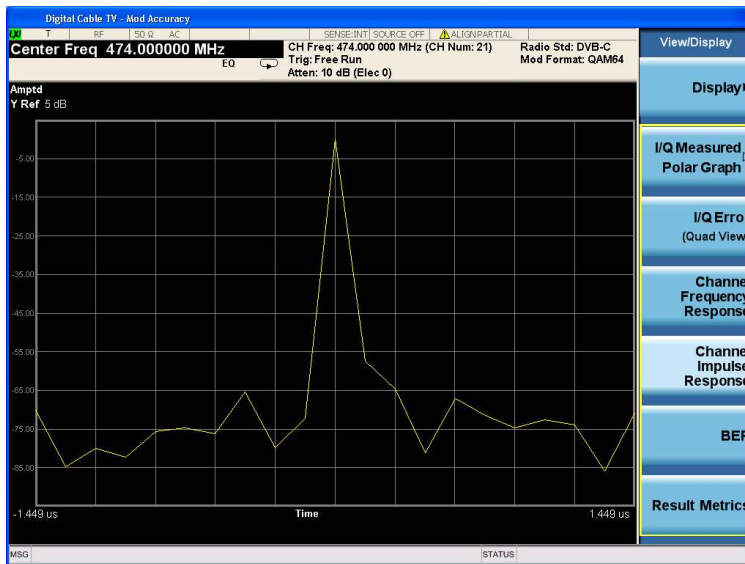

Figure 11.
View the channel impulse response results (Figure 11)	[View/Display] {Channel Impulse Response}
- Channel impulse response view (Figure 11): a view of the state of the channel